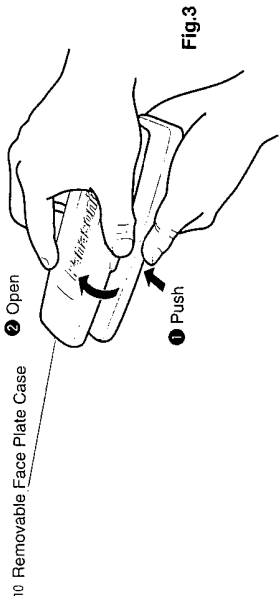

Fig. 3
- 4 As shown in Fig. 3, gently push the lower side of the case and open its cover. Keep the removable face plate in the case. Then, you can bring the plate safely.